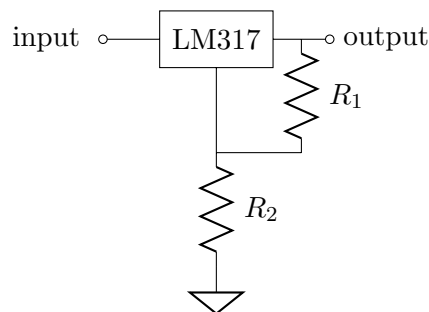

Figure 3: LM317 linear regulator circuit.
- For the circuit of Fig. 3, with sing an input voltage of 9V and  $R_1=510\Omega$ , what's the value of  $R_2$  such that the output voltage is 5 V? What is the efficiency of the regulator in this case? "LM317" refers to the Texas Instruments LM317 voltage regulator IC. You should be able to find its datasheet online.